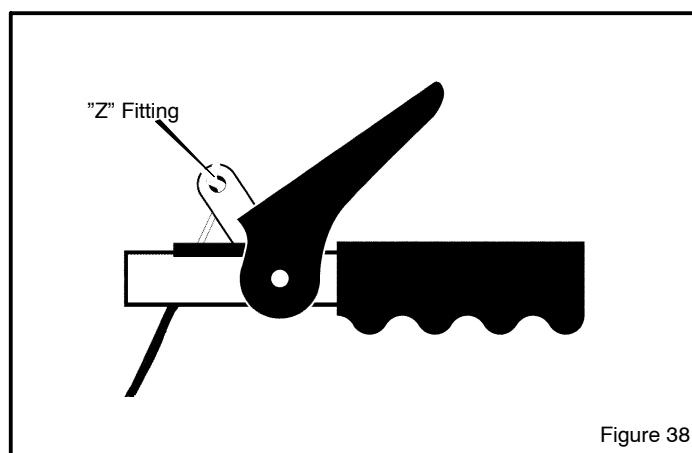

Figure 38
**To check for correct adjustment, unhook "Z" fitting at clutch lever (see Figure 38)**
4. Disconnect the “**Z**” fitting from the **drive lever** (see Figure 38).
10. Install the “**Z**” hook to the **traction drive lever** (see Figure 38).